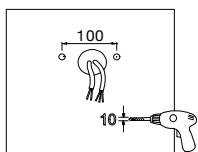

Figure 9
2. Yoke Mounting (YM)
- STEP 1:** Drill holes on the wall as shown. (FIGURE 9)